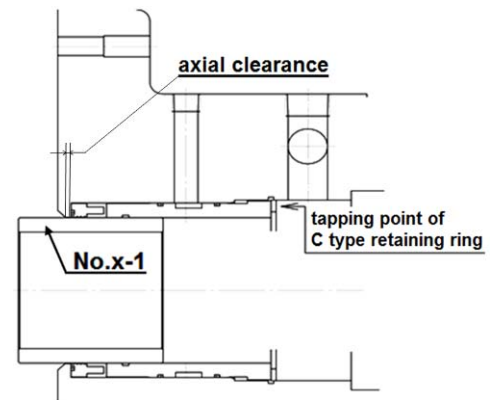

Figure 5-22 Assembling Tool for Main Bearing
- f)-1. Insert the special tool (No.x-1) into the floating seal (A) and the main bearing from the rotor casing side in order to maintain concentricity between the floating seal (A) and the main bearing. Refer to Figure 5-22.
- f)-4. After having installed C type retaining ring, ensure that there is some clearance between the floating seal (A) [28-1] and the bearing head by checking the axial movement of the floating seal (A) manually.